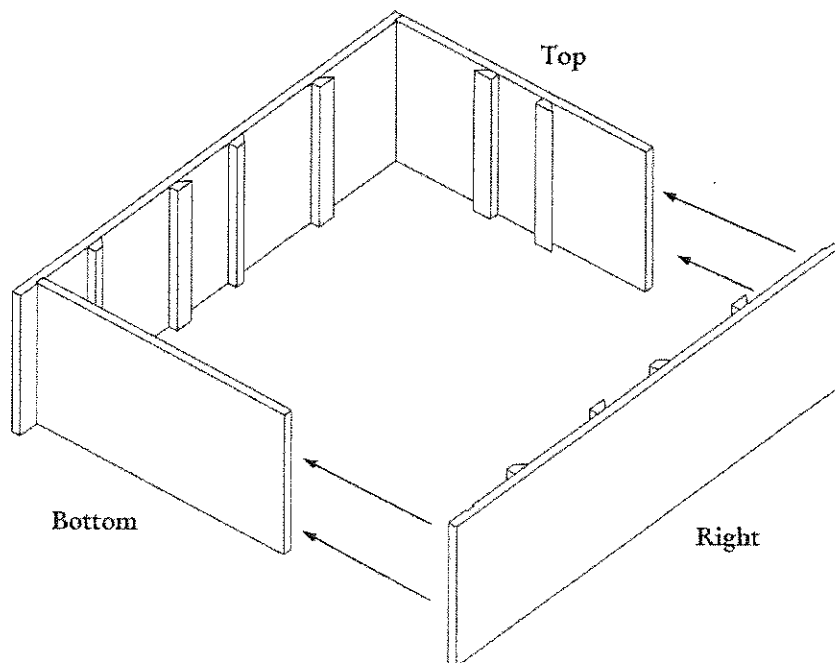

Figure 3
3. Attach the right panel to the top and bottom panels using the pre-drilled holes and screws provided (**Figure 3**).